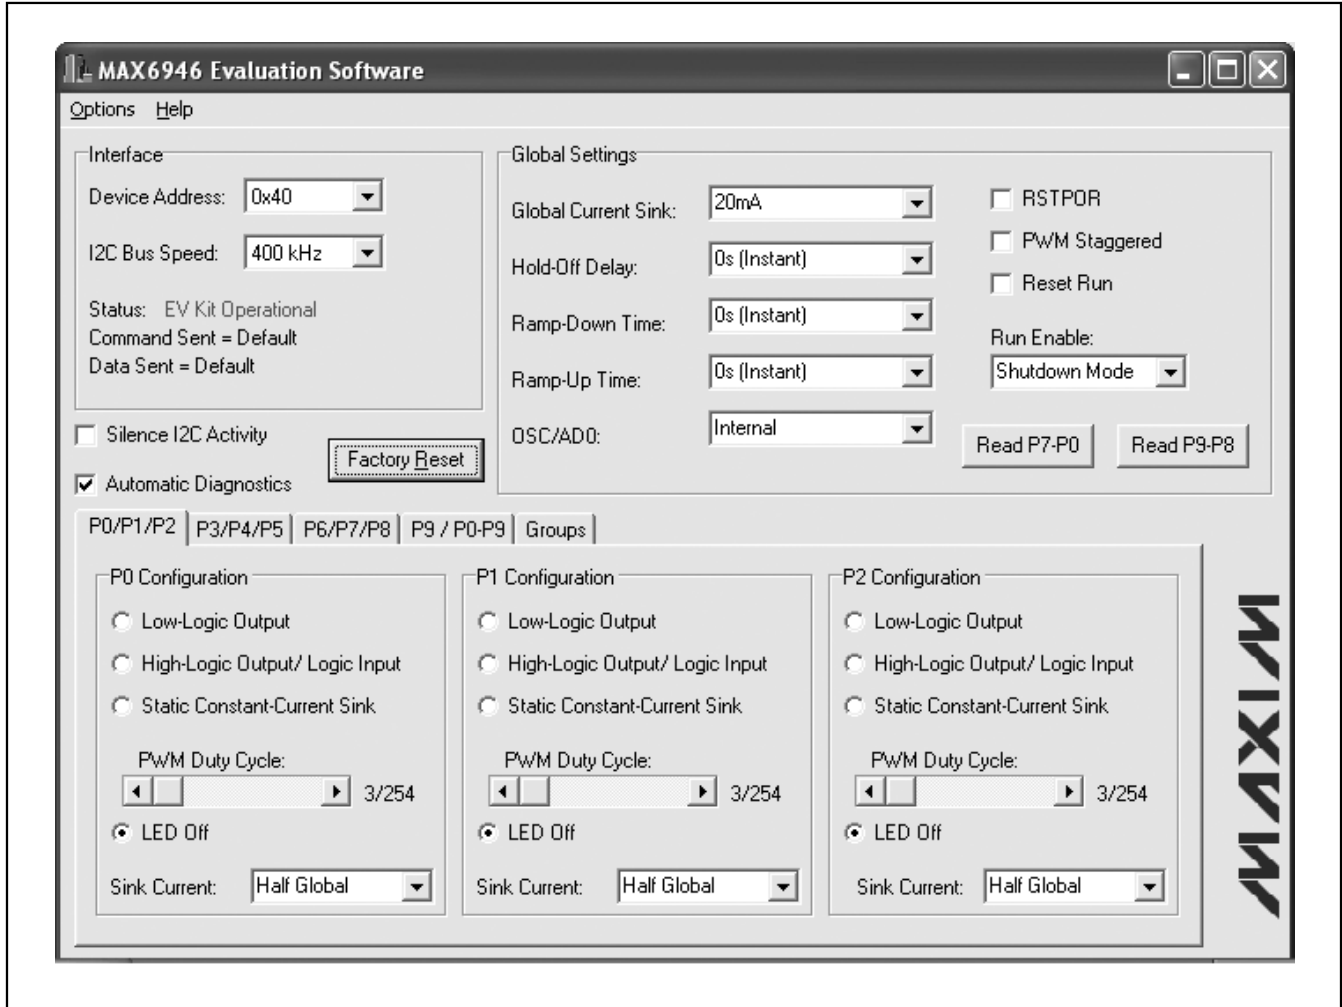

Figure 1. MAX6946 EV Kit Software Graphical User Interface (GUI)
- 11) Start the MAX6946 EV kit software by opening its icon in the **Start | Programs** menu. The application window shown in Figure 1 appears, and the software connects to the CMAXQUSB after a few seconds.
The user interface (shown in Figure 1) is simple to operate. Use the computer mouse buttons or press the Tab key to navigate through the GUI controls. The correct I2C write operation is generated to update the internal registers of the MAX6946 when any of these controls are used.
There are two methods for communicating with the MAX6946; through the normal user-interface panel (Figure 1) or by using low-level I2C commands available through the **2-wire interface** diagnostics (Figure